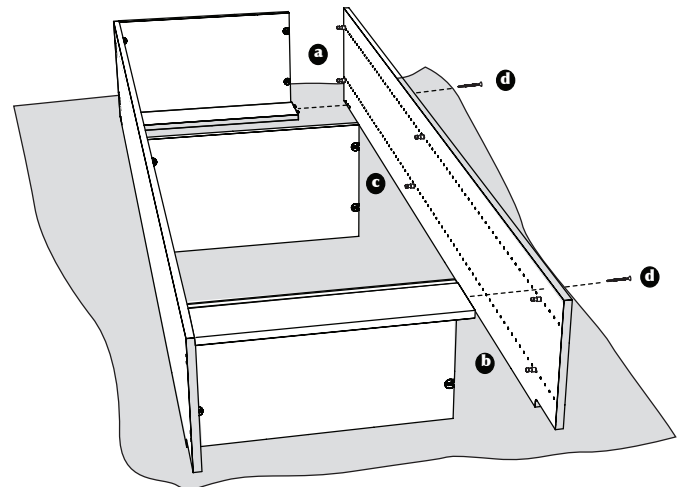

Fig. 5
- Attach the remaining side panel to the cammed shelves and cleats or toe kicks following steps 3-5, as necessary. See Fig. 5. If preferred, gently rollover the tower onto either side panel in order to complete fastening of various screws and studs into each panel.